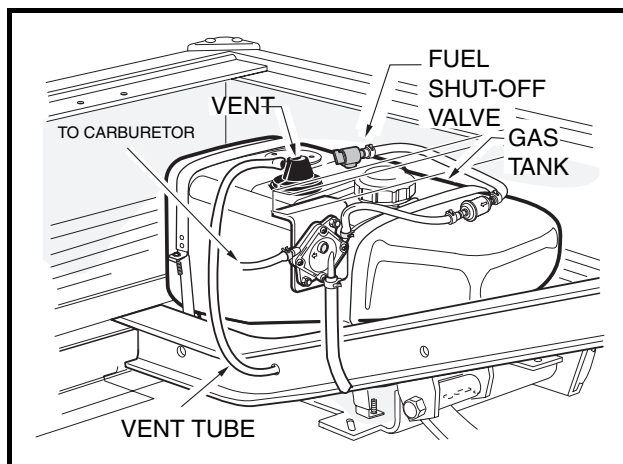
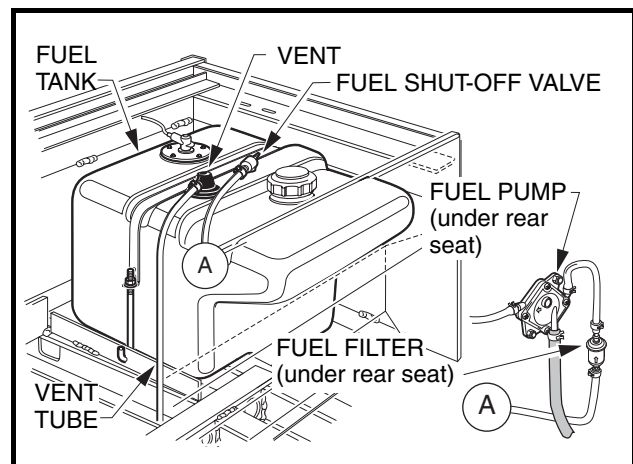
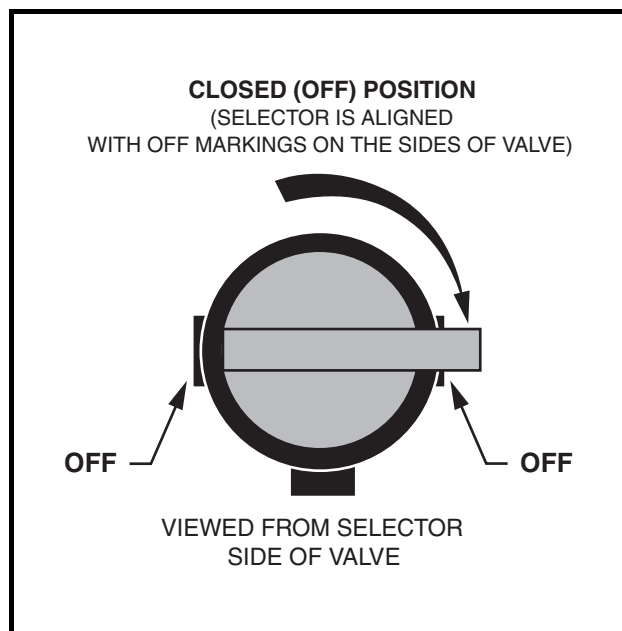

Figure 14-18 Pioneer 1200 Fuel System
Figure 14-19 Pioneer 1200SE Fuel System
Figure 14-20 Closed Fuel Shut-off Valve
2. Turn fuel shut-off valve to the closed (OFF) position (**Figure 14-20, Page 14-28**).
The fuel shut-off valve is located on top of the fuel tank (**Figure 14-18, Page 14-27** or **Figure 14-19, Page 14-27**). The fuel shut-off valve should always be turned to the closed (OFF) position during vehicle storage, towing or trailering or maintenance and service (**Figure 14-20, Page 14-28**).